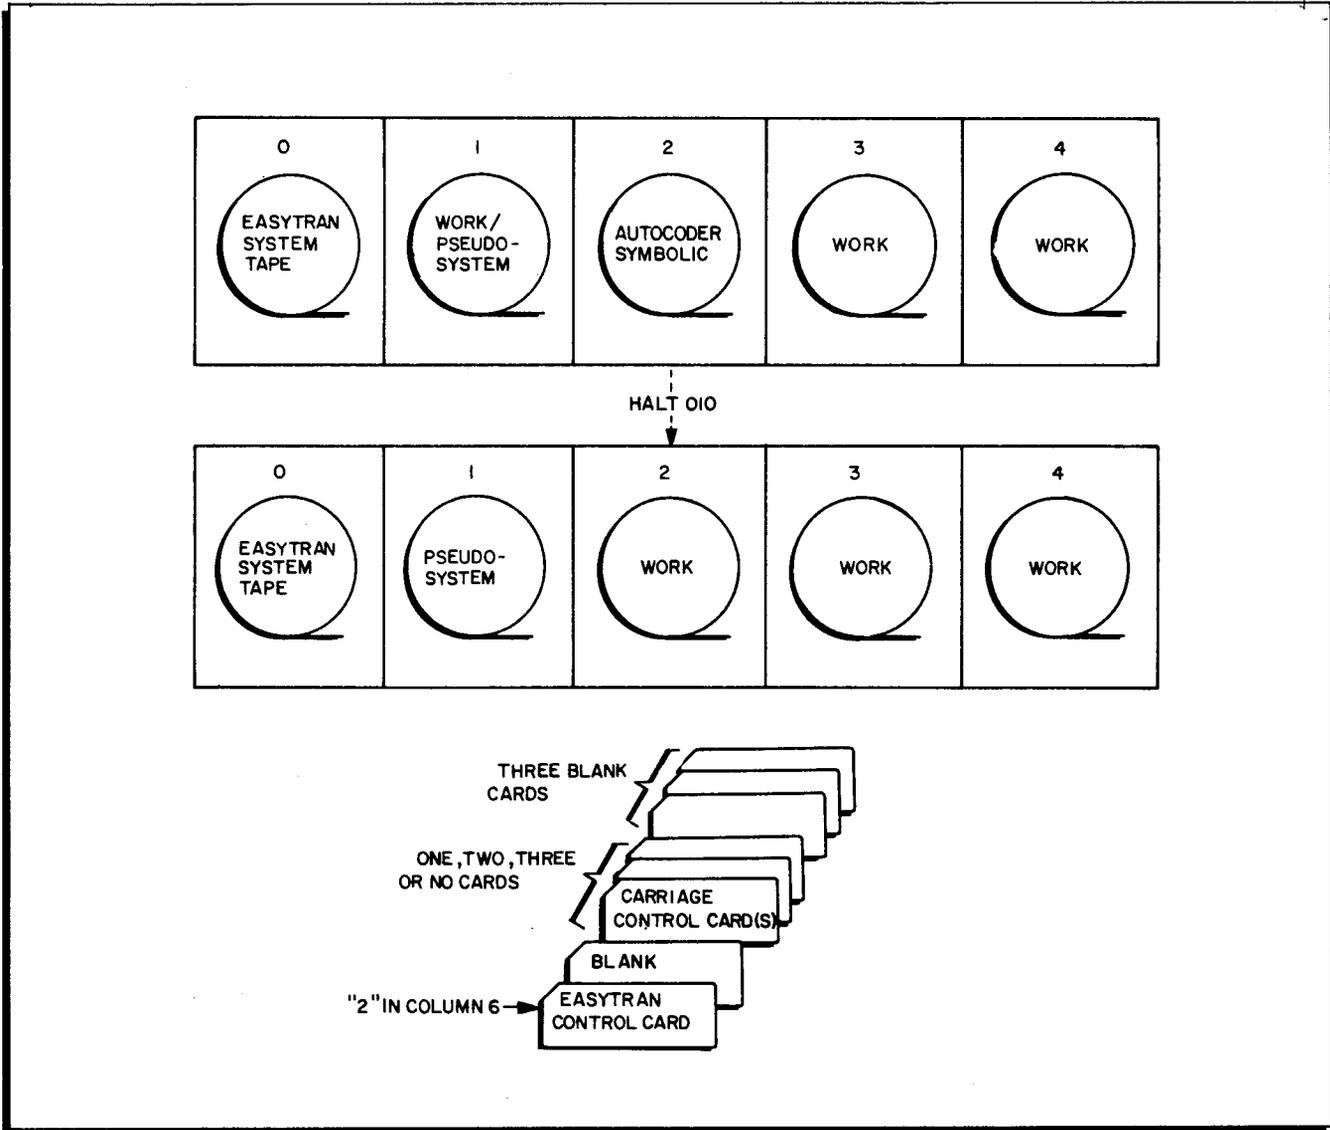

Figure 10. Five-Tape System — Tape Manipulation and Card Input for Autocoder Conversion from Tape
Five-Tape System: Autocoder Conversion from Tape (Figure 10)
1. Make up the Easytran load deck as shown in Figure 10; load the card reader.